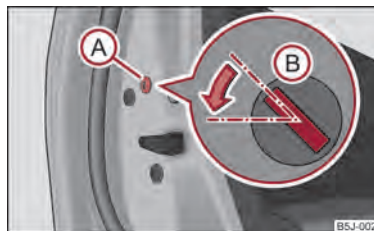

Fig. 14 Emergency locking of the door
- Remove the panel ① ⇒ fig. 14.
- Insert the key into the slot ② and turn it into the horizontal position in the direction of the arrow (mirror-inverted on the right doors).